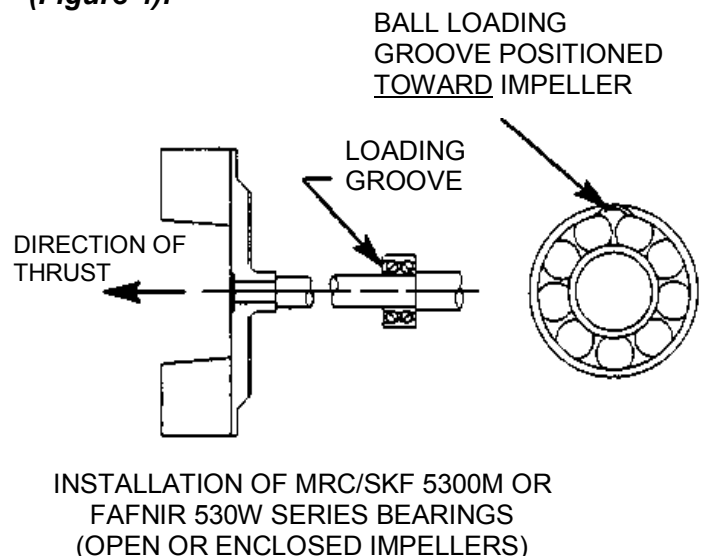

Figure 4. Inboard Bearing Positioning
**Position the inboard bearing (4) on the shaft as indicated by the following illustration (Figure 4).**